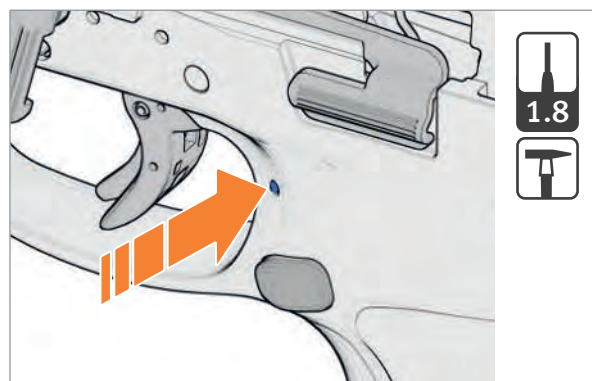

Fig. 29: Driving out clamping sleeve
2. In case of weapons with clamping sleeve for magazine catch: Drive out clamping sleeve with pin punch (Fig. 29).